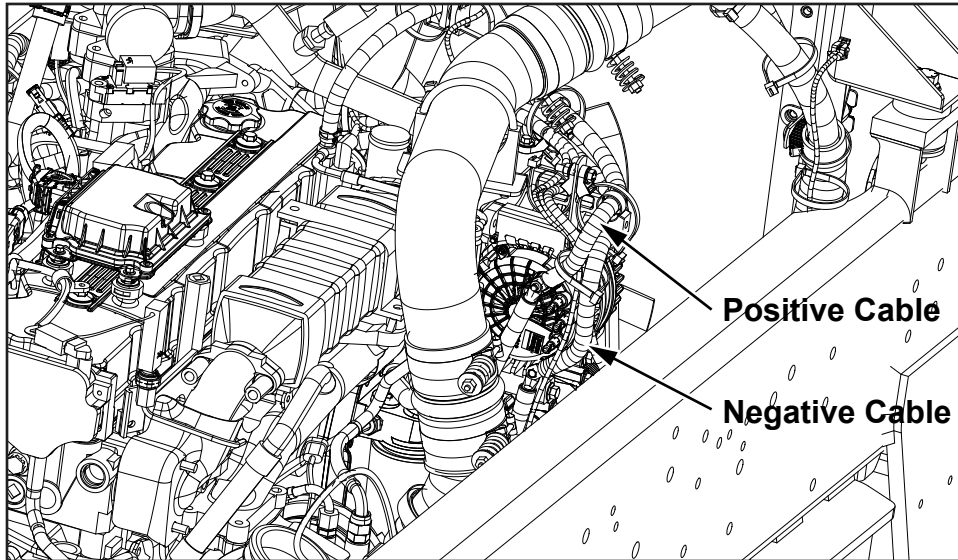

Figure 3
5. Inspect the routing and clipping of the positive and negative cables. Verify there is no rubbing or chaffing of the cables (see *Figure 3*).